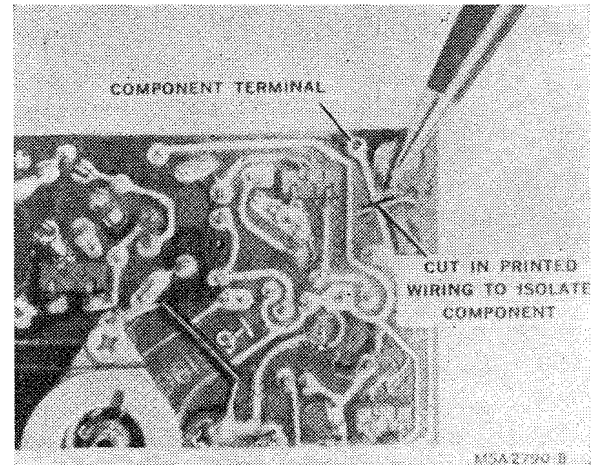

Figure 8 — Component Isolation on Printed Circuit Board
7. To make a circuit isolation of a component on a printed circuit board without removal of either terminal, with a sharp knife, cut through the printed wiring leading to that component as illustrated in Figure 8. This wiring break is easily bridged afterwards with a soldering iron.
To isolate a component on a printed circuit board without removal of either terminal, cut through the printed wiring leading to that component with a sharp knife as illustrated in Figure 8. This wiring break is easily bridged afterward with a soldering iron.